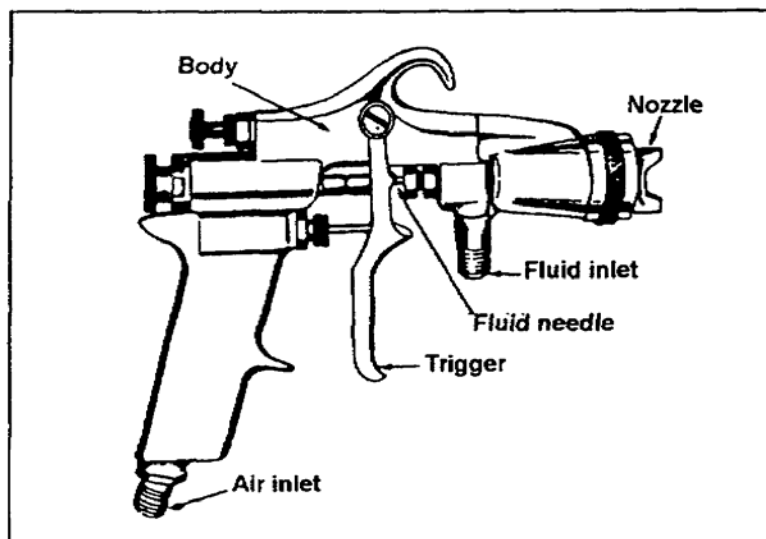

Figure 3-39. Separate-container spray gun
h. Separate Container. This spray gun (Figure 3-39) does not have a paint container or cup attached to the lower portion of the gun. The gun receives paint materials through a fluid hose, which is connected to a separate container called a material pressure-fed paint tank.